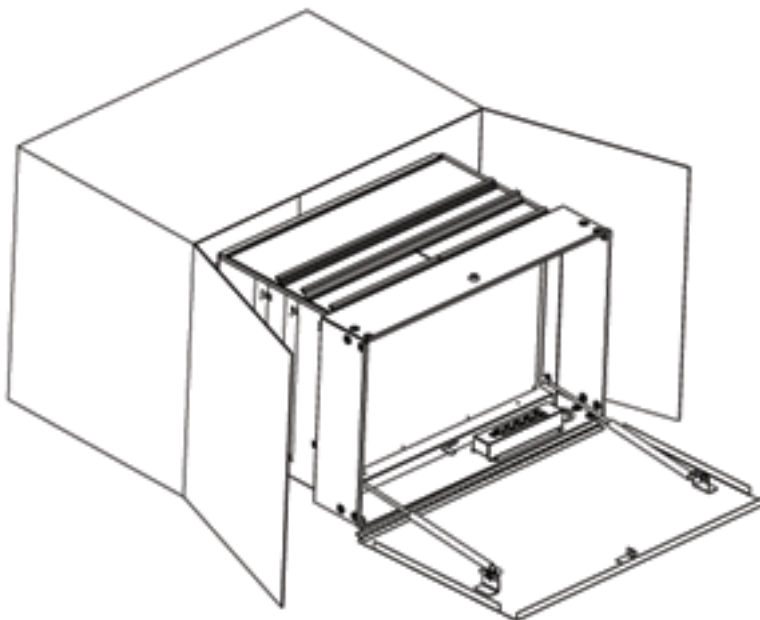

Figure 1
- 2) Open the cart lid and then lay the cart on its back on the blanket. (See figure 1).